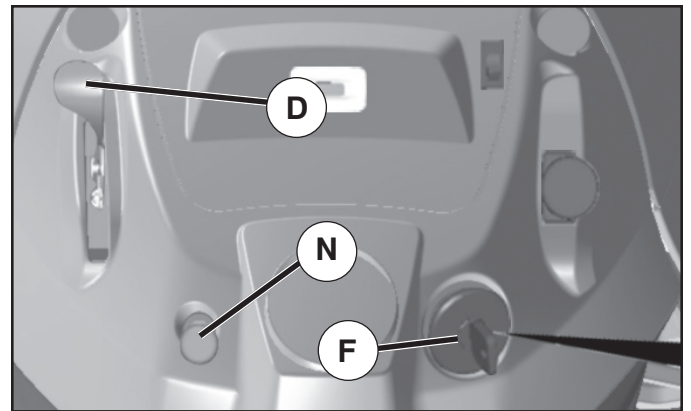

Fig. 6
- Move throttle control (D) between half and full speed (fast) position.
- Turn ignition key (F) to "STOP" position and remove key. Always remove key when leaving tractor to prevent unauthorized use.
### TO USE THROTTLE CONTROL (D) (See Fig. 6)
### TO USE CHOKE CONTROL (N) (See Fig. 6)